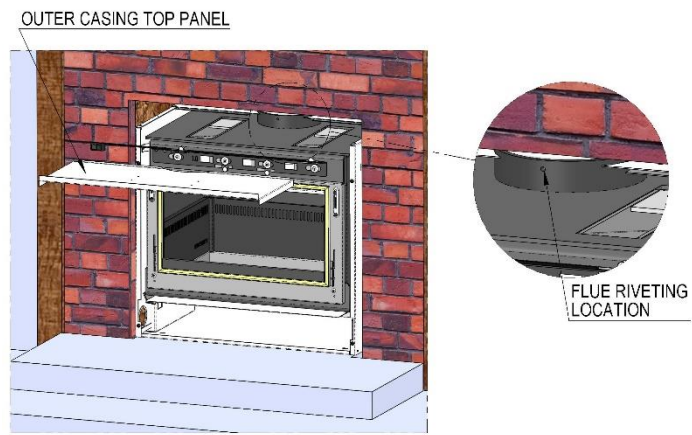

Fig. 8
- D1. Heater must be restrained from seismic movement (Fig. 8) as required by AS/NZS 2918:2001
P. Xander Flue Spigot Fixing (Fig. 8)